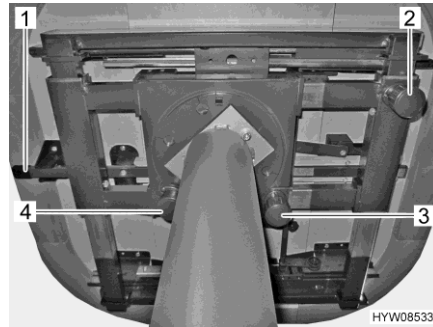
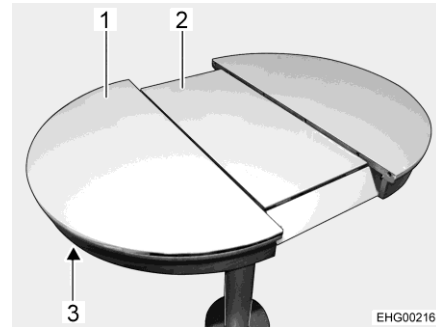

Fig. 94 Adjustment possibilities on the table
Fig. 95 Expanding the table top
- Pull down the knob (Fig. 94,3) and hold it.
- Pull down the knob (Fig. 94,2) and hold it.
- Pull down the knob (Fig. 94,4) on the lock.
- Press the release (Fig. 94,1 and Fig. 95,3) upwards.
- Pull on the table top (Fig. 95,1) until the centre section (Fig. 95,2) comes up and is at the same height as the table top.
- Press the release (Fig. 95,3) upwards.
- Pull on the table top (Fig. 95,1) until the centre section (Fig. 95,2) is freed.